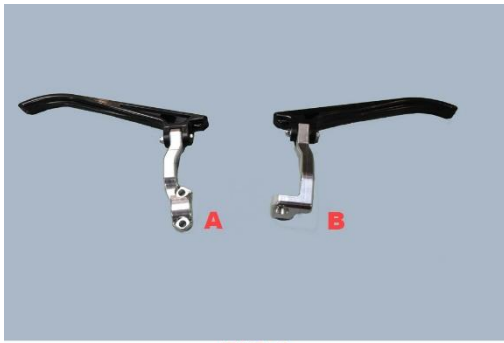

FIG 1
1. Decide between clutch side and brake side that you want to start on. It is up to you. The Clutch side will be the top mounted clamp and the brake side will be the back mounted clamp. (FIG 1. A for clutch side. B for brake side)